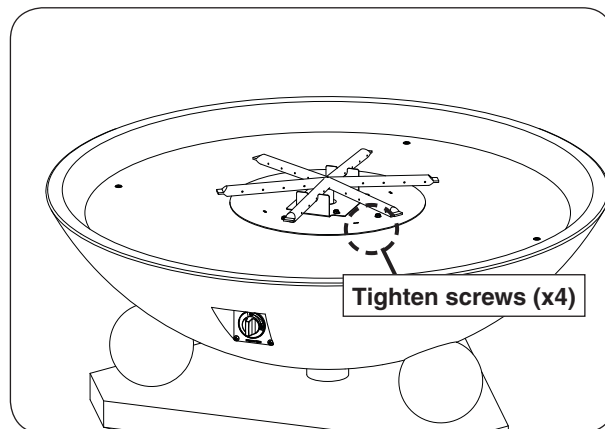

Fig. 31-2 Install burner
2. Use a $\frac{5}{16}$ " nut driver to fasten the burner to the base (see Fig. 31-2).